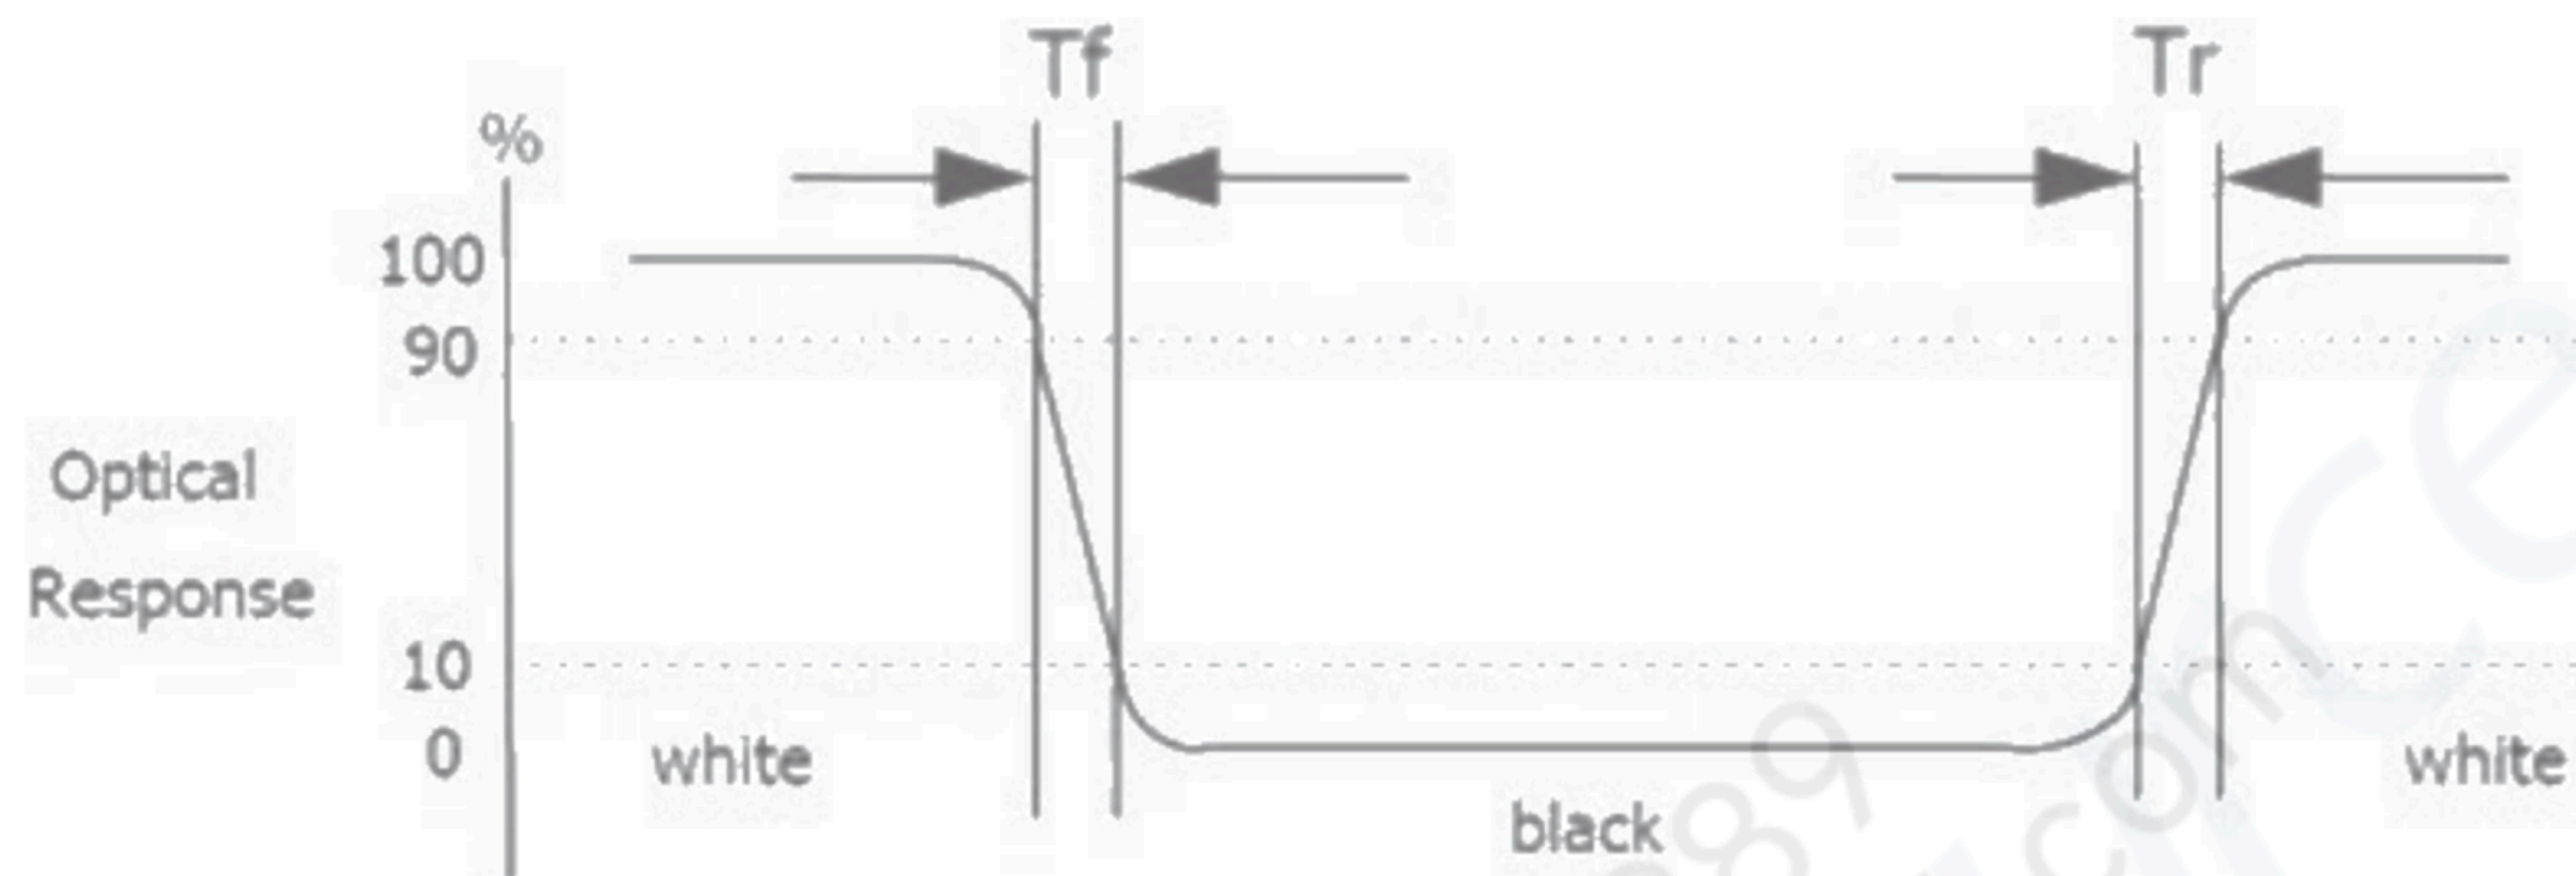

Figure 7. Response Time Testing
5. The electro-optical response time measurements shall be made as FIG.7 by switching the "data" input signal ON and OFF.